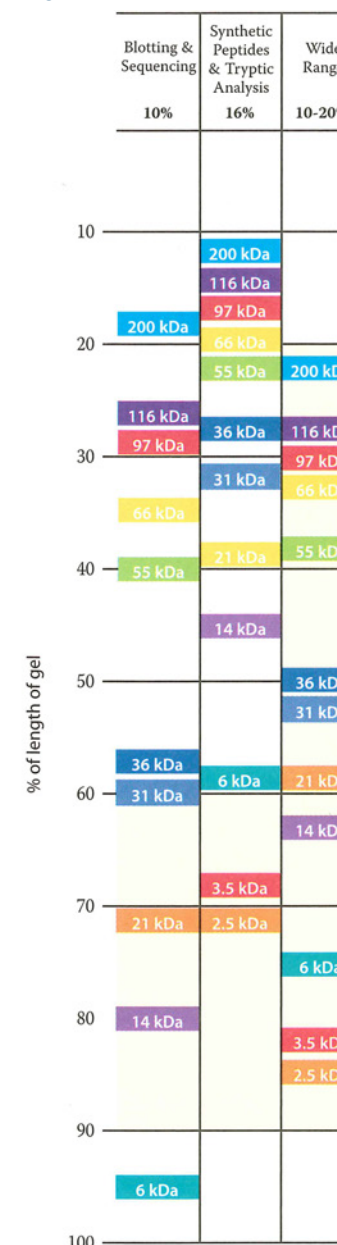

Figure 15. Novex Tricine gel migration chart. For optimal resolution, protein bands should migrate within the shaded areas.
- **Increased resolution of proteins** with molecular weights as low as 2 kDa (Figure 15)